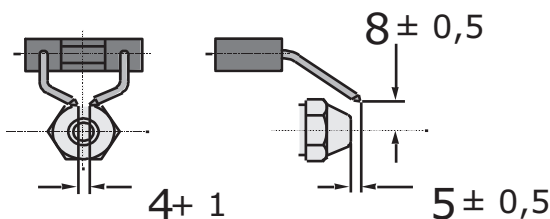

Fig.506
- Check clear distance of the electrode tip to the fuel nozzle (see Fig.506) and adjust if necessary.
- Check the clear distance between the electrodes (see Fig.506) and adjust if necessary.